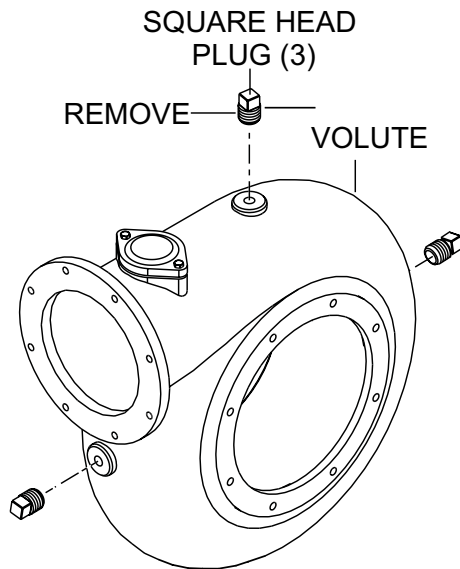

Figure 39. Plug Removal (2)
1. Remove the 3 square head vent plugs (Figure 39) from the volute.